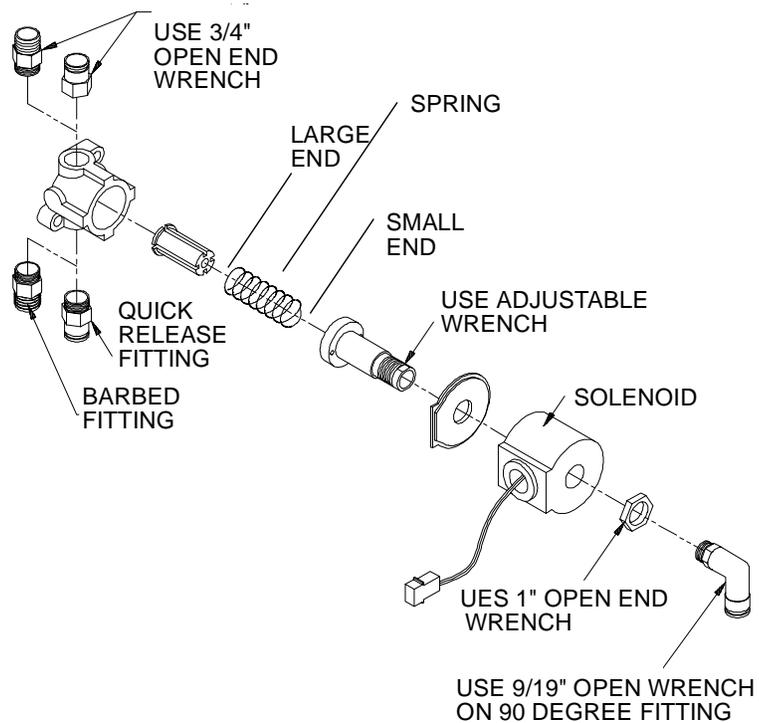

Figure 16. Exploded View of Valve
2. Refer Figure 16 on page 24 to reassemble the valve.